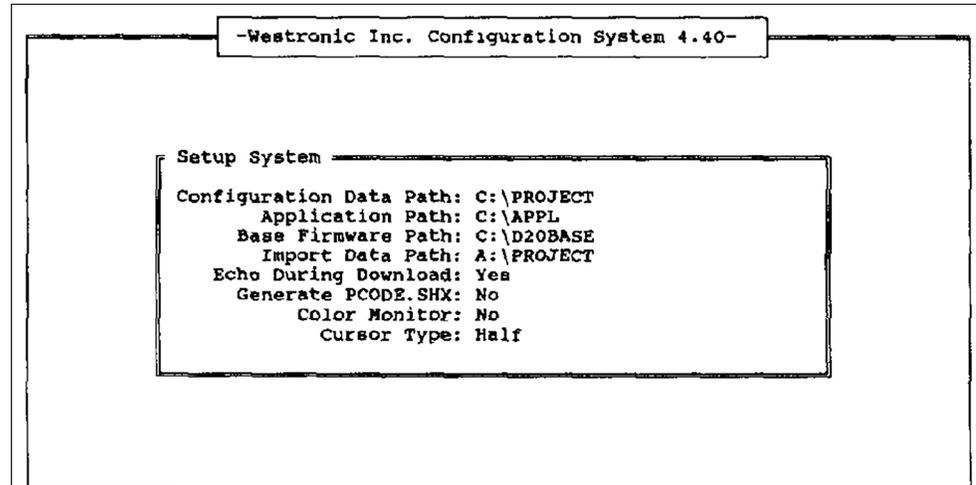
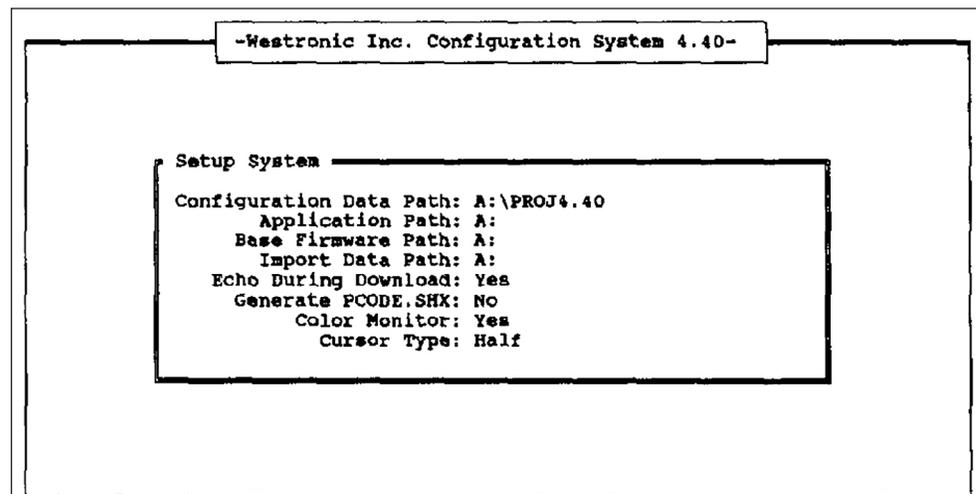

Figure 2. The *Setup System* screen configured as it opens.
Figure 3. Follow Step 2 to configure the *Setup System* screen to match the settings in this example.
STEP 2. The *Setup System* screen will open. See Figure 2 on page 10. Using the arrow keys, move the cursor to the appropriate locations to revise the screen so that it looks like Figure 3 on page 10.